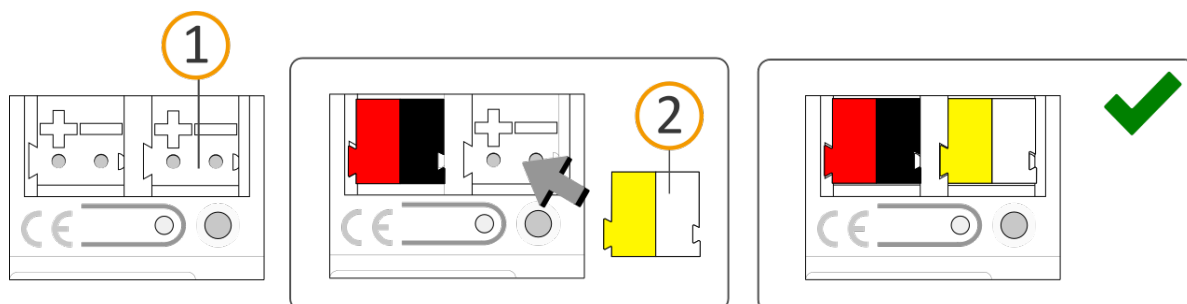

Figure 12: Connect the power supply
3. Connect the external power supply to the power supply terminal (see figure 12, item 1) by means of the supplied power connection terminal (see figure 12, item 2). Polarity: left/yellow: "+", right/white: "-".
- a. Attach the power connection terminal (see figure 12, item 2).